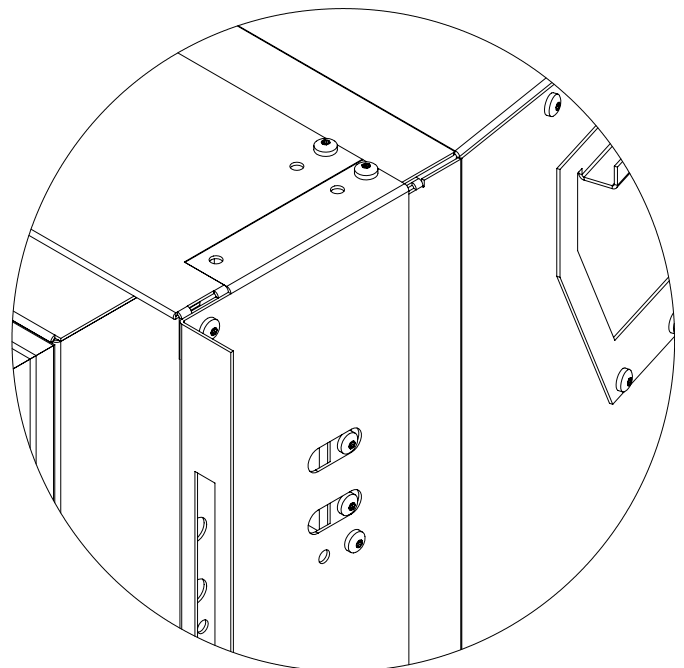

Figure 45: Setting 2
3. Slide the side extensions forward until the rear holes line up with the holes in the cabinet (see Figure 45).
4. Re-install six (6) screws through each side extension and into the cabinet sides.